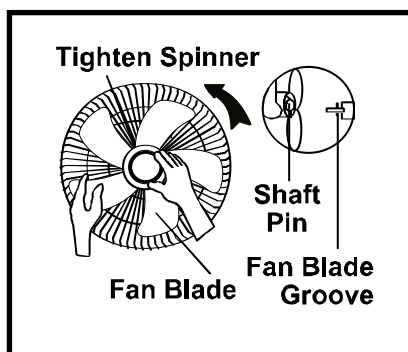

Fig2
7. Insert the Blade into the Shaft ensuring Blade groove is locked into the locating Shaft Pin (Fig2) then tighten with the Spinner Nut. To tighten the Spinner Nut rotate anti- clockwise.